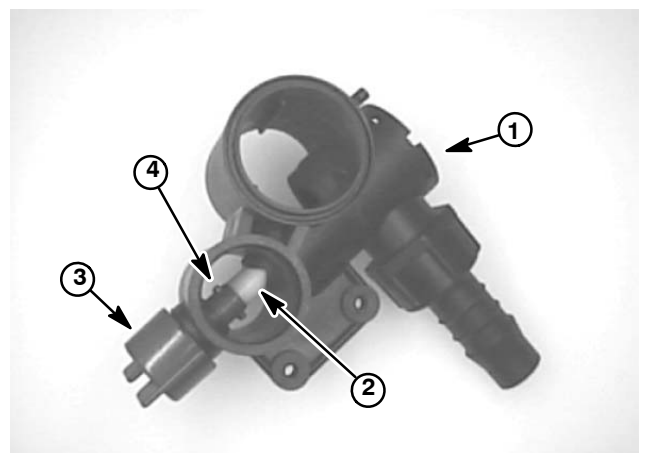

Figure 29
2. If boom valve manifold was disassembled (Fig. 29):